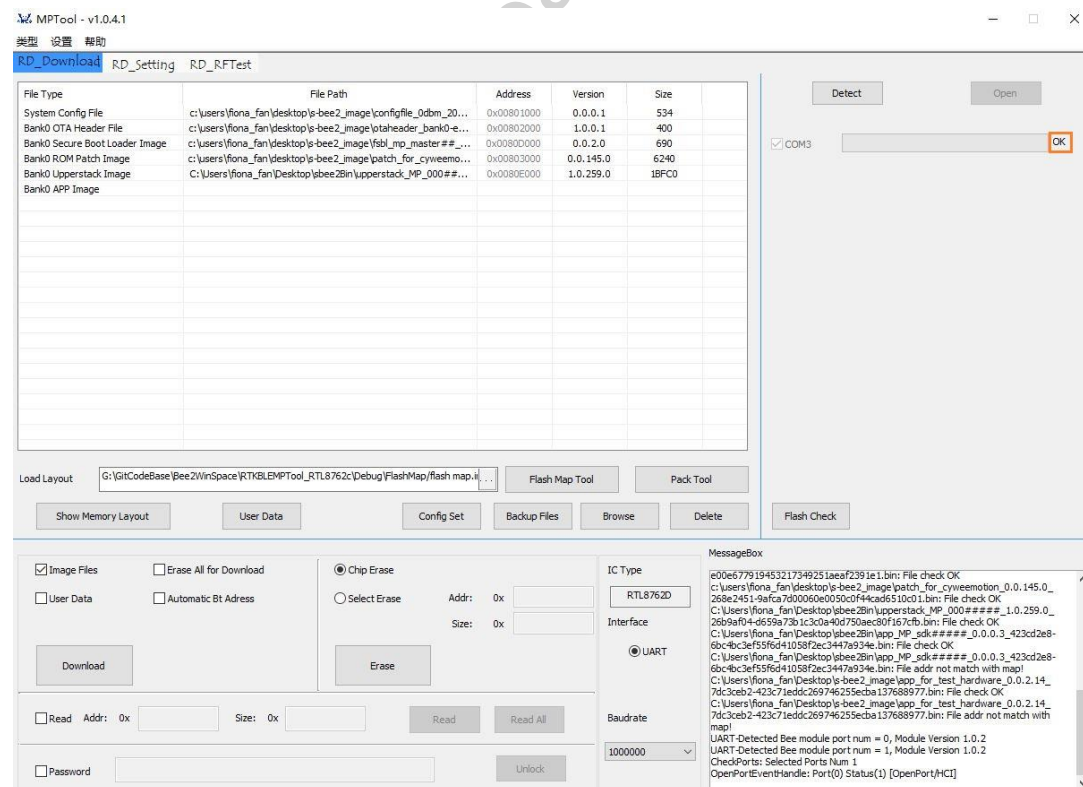

Figure 7-13 Open Port
- 5) Click “Open” to open the port, the port displays “OK” status after being opened successfully, as is shown in Figure 7-13.